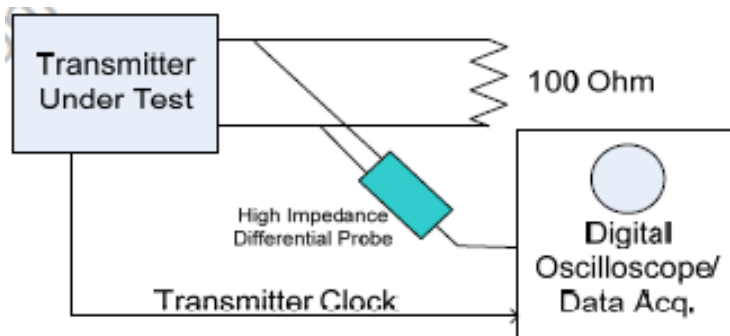

Figure 5.1 Transmitter Test Fixture 1: Droop, Jitter
- Measuring with Fixture shown in Figure 5.1